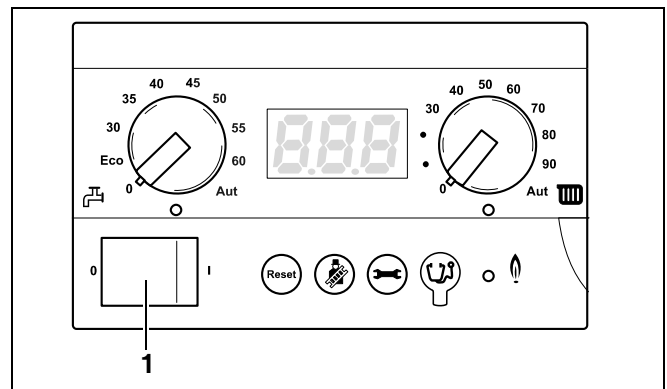

fig. 21 BC10 basic controller
- Switch off the heating system by pressing the mains switch of the BC 10 (fig. 21, **item 1**).
- Switch off the heating system by pressing the mains switch of the BC10 (→ fig. 21).
- Leave the mains switch on the BC10 (→ fig. 21) in position "1".